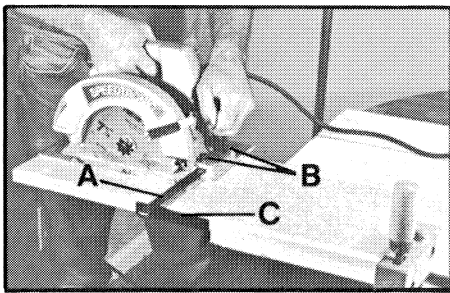

Fig. 10
Cutting wood lengthwise, with the grain, is known as ripping. For narrow rip cuts, a handy accessory, number 53124 Rip Guide, can be used. Insert the rip guide bar (A) Fig. 10, under the bridge on the front of the saw base. Thread the rip guide screws with springs (B) into the top of the bridge. Adjust guide for desired width of cut, taking into consideration the blade thickness so the work will not be cut too wide or too narrow. Firmly tighten screws. The saw is guided by keeping the guide (C) against the edge of the board, as shown in Fig. 10.